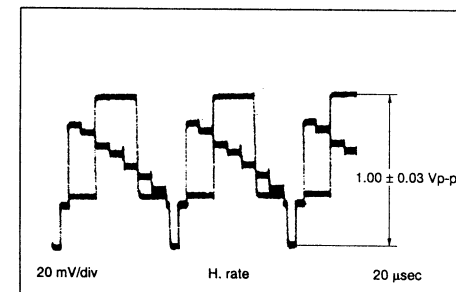

Fig. 3-3-6 PB Y level
- (1) Connect an oscilloscope to Y OUT TERMINAL.
- (2) Set the EVR mode by pressing the "K" button of the pre-setting unit.
- (3) Set "A : 11" by twice pressing 1 button of the remote controller.
- (4) Record a colour bar signal in the S-VHS mode, and playback the recorded colour bar signal.
- (5) Adjust the CH "+" or "-" buttons for 1.00 ± 0.03 Vp-p as shown in Fig. 3-3-6.
- (6) Set the normal VCR mode by pressing the "K" button of the presetting unit again so adjustment data is memorized.
- (7) Repeat steps (1) to (6) in the VHS mode.